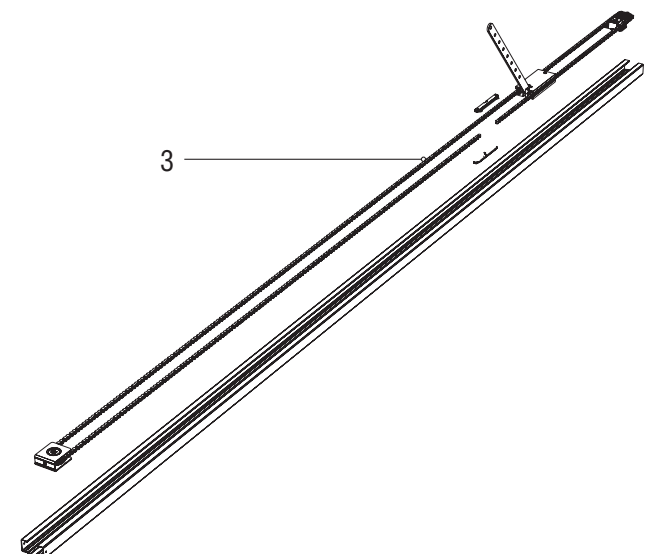

Fig. 3
4. Remove a chain with a carriage mechanism, pos. 3 (fig. 3).